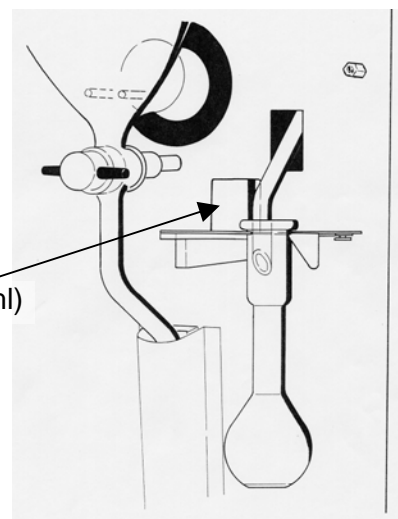

Fig. 9
Place the flask on the balance arm with the cylindrical mass (100 ml) on the hexagonal pin (Fig. 9).
6) Add about 2 ml cold distilled water to the same flask used for measurement of the sample. Collect ≈ 95 ml of distillate.	It is possible to regulate the quantity of the distillate by adjusting “the pivot of mass”, this balance system controls the automatic stop . (Fig. 9)